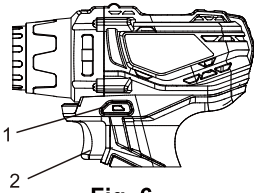

Fig. 6
The forward/reverse switch (1) is conveniently mounted above the trigger switch (2) (Fig. 6). To make the drill rotate clockwise (for drilling) push the forward/reverse switch to the left. To make the drill rotate counterclockwise for removing screws, push the forward/reverse switch to the right.